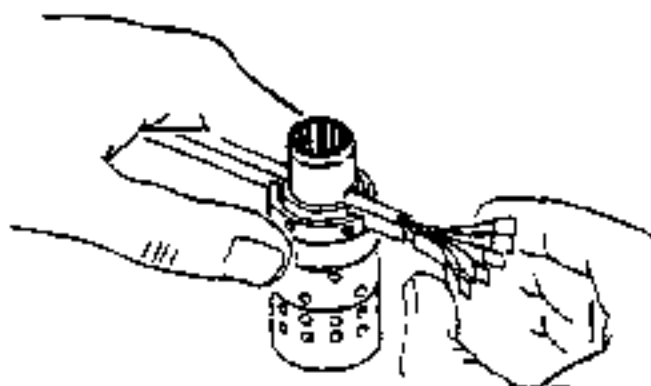

Figure 14
7. Bring spring slots of both parts in line and stand parts on end of bench. Insert spring installation tool through spring slots of both parts. Position 3 pairs of centering springs (or 2 sets of 3 each) on bench so that extended edge is down and arched center section is together in this position. Insert one end of entire spring set into spring installation tool, as shown in Fig. 14, with spring notches facing sleeve.